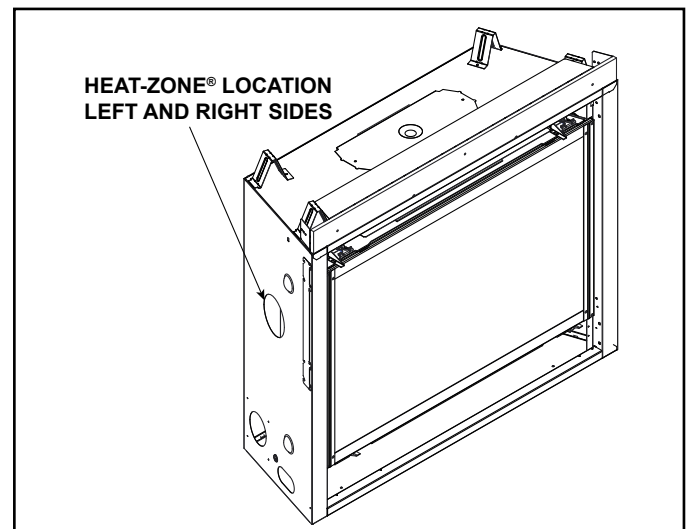

Figure 6.17 Heat-Zone® Locations
- Locate the Heat-Zone® ports on the left and right sides of the appliance. Either one or two Heat-Zone® Gas Kits may be installed. Only one Heat-Zone® Plus Kit may be installed. See Figure 6.17. Remove the knockouts from the appliance with a tin snips.